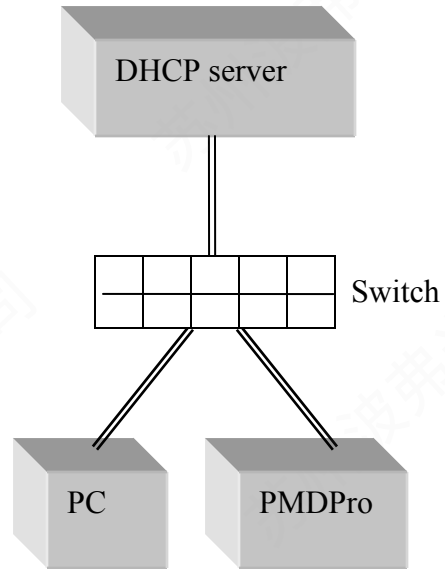

Figure 25 Connect PMDPro with DHCP server
- b) Dynamic IP: the DHCP server assigns the instrument an available address when requested. Connect the instrument with a DHCP server (router or exchange server), as shown in Figure 25. For this configuration, a standard straight-linked network cable must be used.